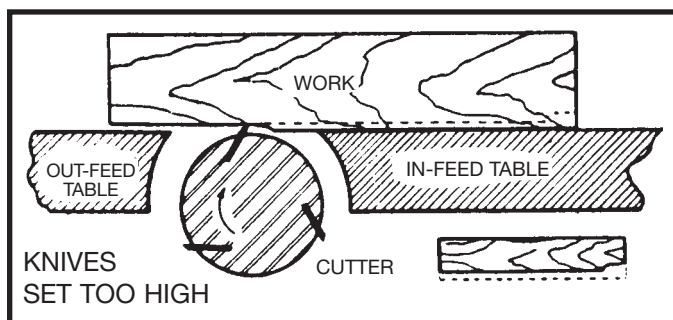

Fig. 44
8. If the knives are set too high, the work will be gouged at the end of the cut, as shown in Fig. 44.